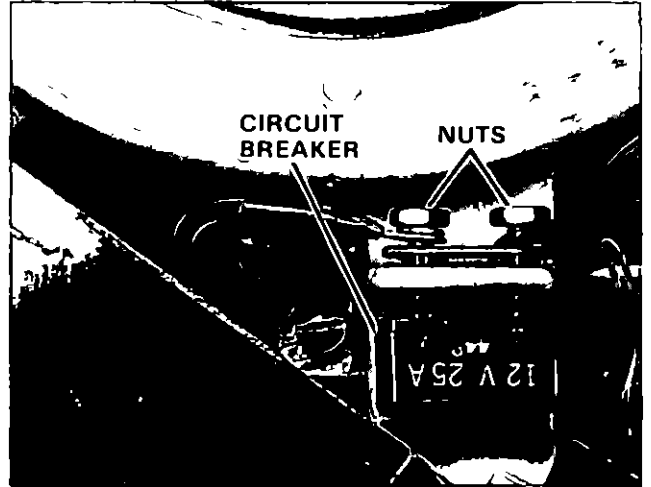

Figure 26 Removing Circuit Breaker.
- 2 Remove one screw securing rectifier to starter support Figure 26
- 3 Disconnect four (4) lead wires
- 2 Remove nuts and lead wires from circuit breaker terminals Figure 26